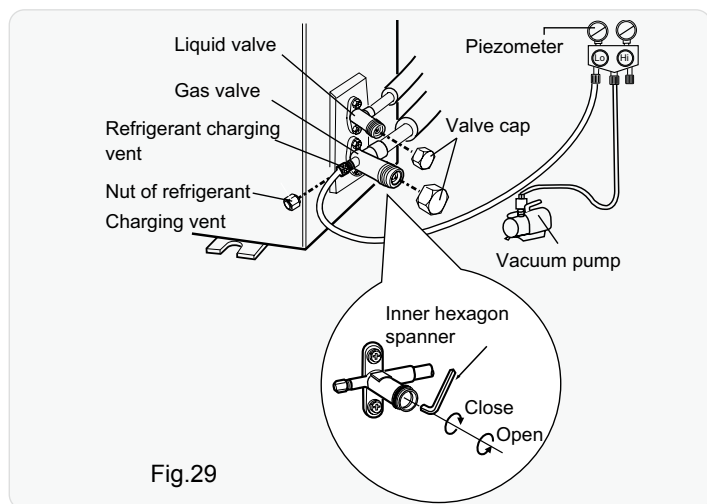

Fig.29
(1) Remove the valve caps on the liquid valve and gas valve and the nut of refrigerant charging vent.
(2) Connect the charging hose of piezometer to the refrigerant charging vent of gas valve and then connect the other charging hose to the vacuum pump.
(3) Open the piezometer completely and operate for 10-15min to check if the pressure of piezometer remains in -0.1MPa.
(4) Close the vacuum pump and maintain this status for 1-2min to check if the pressure of piezometer remains in -0.1MPa. If the pressure decreases, there may be leakage.
(5) Remove the piezometer, open the valve core of liquid valve and gas valve completely with inner hexagon spanner.
(6) Tighten the screw caps of valves and refrigerant charging vent. (As show in Fig.29)
(7) Reinstall the handle.